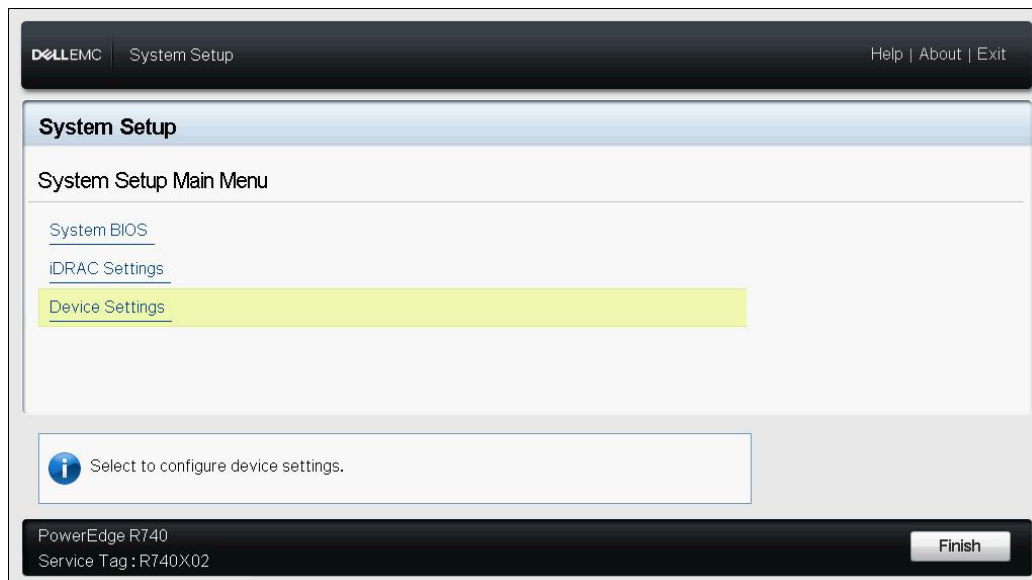

Figure 6-26. System Setup: Selecting Device Settings
2. Press the OEM hot key to enter System Setup (Figure 6-26). This is also known as UEFI HII.